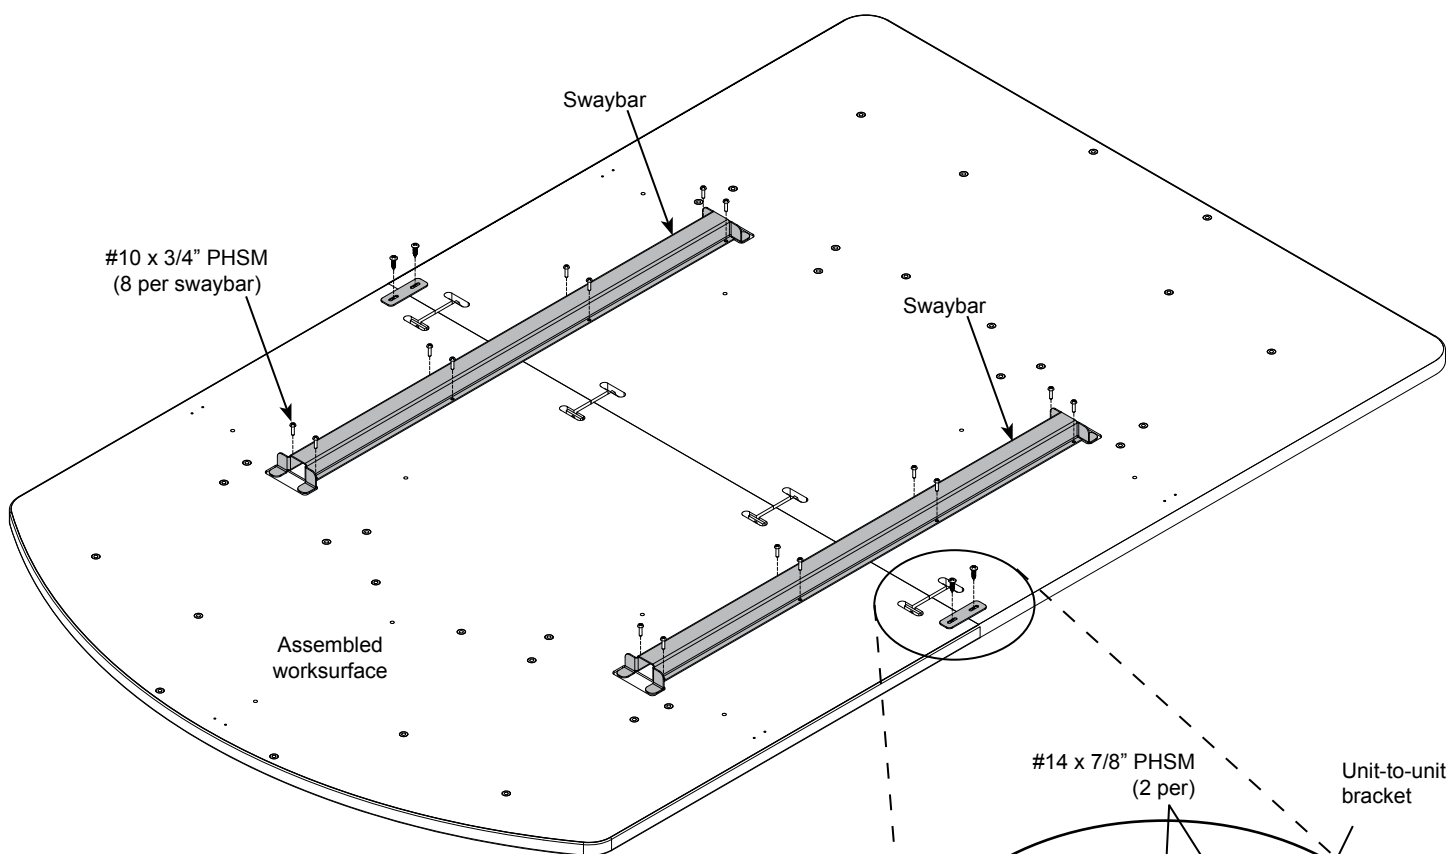

Figure 4E
6. Using (8) #10 x 3/4" PHSM screws, attach each swaybar to the worksurface as shown. **Figure 4E.**